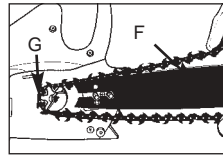

Fig. 3D
- Place the chain over the sprocket (F) with drive links fitting between sprocket teeth. Guide the chain links into the groove (G) on the top side of the guide bar and around the nose. The saw chain will droop slightly on the lower part of the guide bar. (See Fig. 3D)